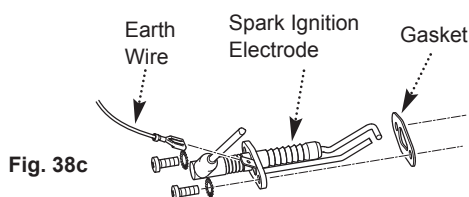

Fig. 38c
11. Remove the ignition electrode (Fig 38c) and check the condition. Replace if necessary.